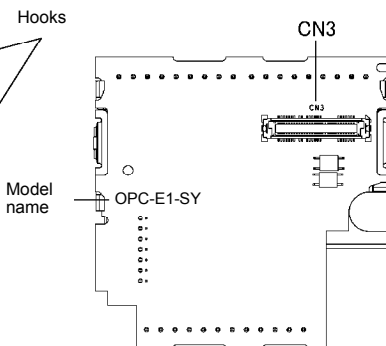

Figure 1.3
- (1) The synchronous operation card is the model you ordered.
- (2) The card is not damaged during transportation--no defective parts or lacking parts.
- (3) The model name "OPC-E1-SY" is printed on the card. (See Figure 1.3.)
- (4) The card is applicable to your inverter.
- (2) If the interface PCB is mounted on the inverter, push the hooks provided on both ends of the interface PCB and pull it up and out of the inverter with both hands. (Store the removed interface PCB for future use.)
- (3) Connect the CN3 connector (shown in Figure 1.3) on the synchronous operation card to the connector on the inverter until it clicks into place.